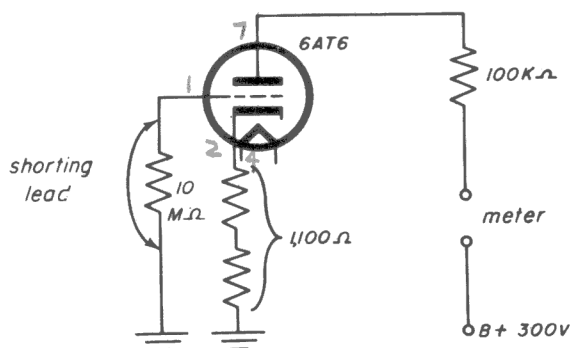

Fig. 25-4
Step 11. Remove the wire connecting the cathode of the 6AT6 to ground, and insert the 1,100-ohm resistor prepared in Step 10 between cathode and ground, as shown in Fig. 25-4.